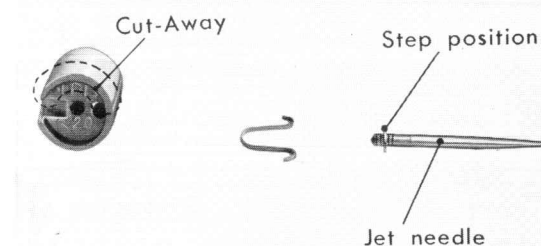

Figure 3-104. Jet needle and cut-away of the throttle valve
(1) Jet Needle
(2) Throttle valve cut-away. (Fig. 3-104)